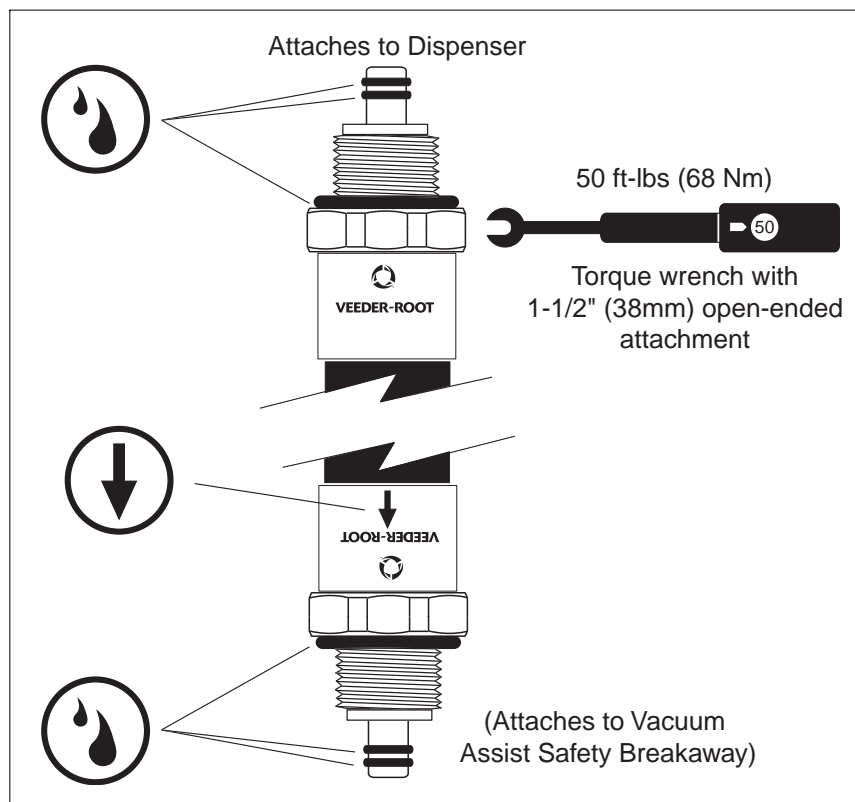

Figure 2. Connecting Vacuum Assist Whip Hose
3. Inspect and lubricate the three o-rings on both fittings of the hose using mineral oil or other suitable lubricant (Figure 2).